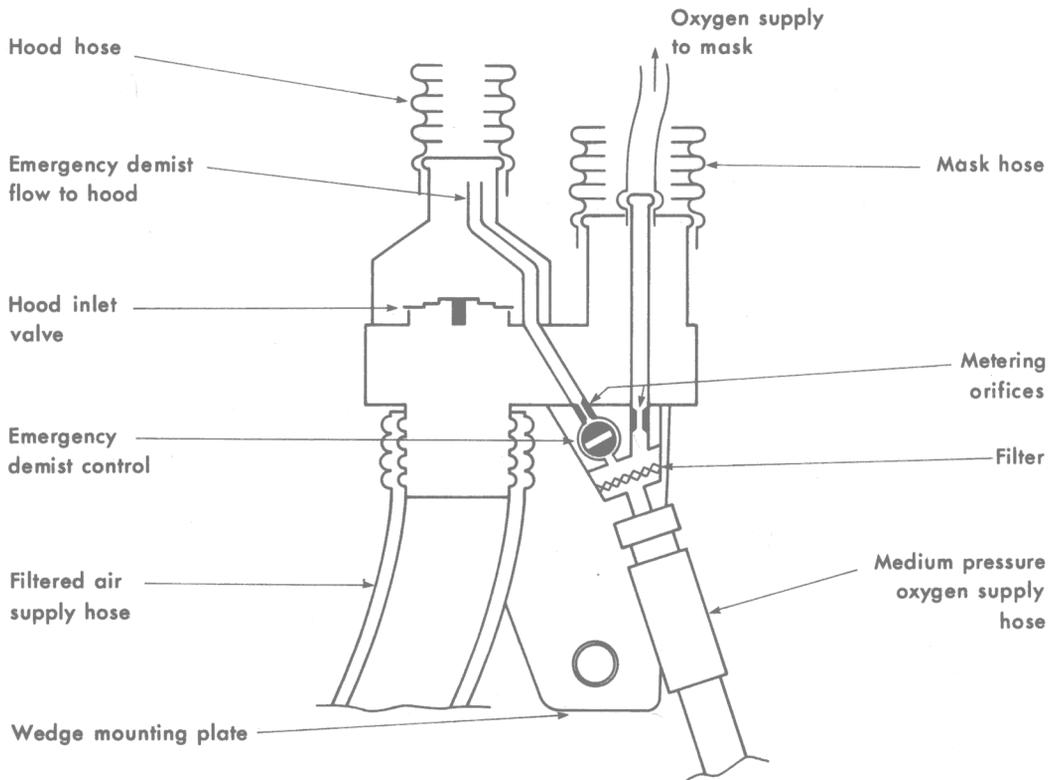

Fig 7. Diagram of Supply Manifold Mk 1 for AR5
This form of manifold carries filtered air supplied by a ventilator to the mask and hood compartments of the respirator together with oxygen from a medium pressure (70 psi) supply. The manifold consists of a chamber into which is connected the air inlet, mask inlet and hood inlet hoses and an oxygen block (Fig 7). The air inlet hose opens directly into the chamber and the mask hose opens directly out of it. There is, however, a non-return valve between the chamber and the outlet to the hood hose. This valve (the hood inlet valve) consists of a stepped rubber disc and seat. When air is delivered at positive pressure to the manifold the resistance to flow through the hood inlet valve (the hood hose and hood inlet adaptor) maintains safety pressure in the mask relative to the hood compartment during inspiration. The hood inlet valve also prevents air being drawn back from the hood compartment and inspired through the mask hose on failure of the blown air supply. Butyl anti-kink hoses are fitted to the manifold, the air inlet hose ending in a bayonet plug Mk 7. Restraint cords prevent overextension of the mask and hood hoses under high g or windblast forces. The inlet to the oxygen block of the manifold carries a length of butyl medium pressure hose which is fitted with the male portion of a QR (Circlex) connector. A pressure opening valve which is leakproof until the pressure difference across it exceeds 2 psi is incorporated in this inlet hose in order to prevent contaminated environmental air being drawn through the oxygen supply hose when the latter is not connected to the aircraft oxygen system.
c. *Oxygen Supply.* A constant flow of oxygen (approximately 8 litre (NTP) min^{-1}) passes into the mask hose through a metering orifice in the oxygen block of the manifold and thence through an inner tube which opens into the mask hose just upstream of the inlet non-return valve of the mask. During expiration the oxygen fills the mask hose which thus acts as a reservoir so that on inspiration this oxygen is drawn into the lungs followed by air together with the continuous flow of oxygen. This oxygen system will prevent hypoxia at altitudes between ground level and 25,000 feet. Above a cabin altitude of 25,000 feet, however, the volume of the reservoir must be increased in order to avoid hypoxia. This is achieved by switching off the aircraft fixed ventilator automatically by a barometric switch. Since loss of ventilation of the hood compartment of the respirator can result in certain circumstances in rapid misting of the visor and hence impairment of vision, an alternative supply of gas to purge the compartment is provided through the oxygen block of the manifold. In the event of failure of the blown air supply in flight, a flow of oxygen (10–12 litre (NTP) min^{-1}) can be delivered into the hood hose (down stream of the hood inlet valve) by operating the EMERGENCY DEMIST control which is mounted on the front surface of the respirator supply manifold (figure 7). This flow of oxygen will prevent misting of the visor. The EMERGENCY DEMIST control must be operated immediately the cabin altitude exceeds 22,000 – 25,000 feet. Since this oxygen system does not provide pressure breathing the use of the AR 5 is